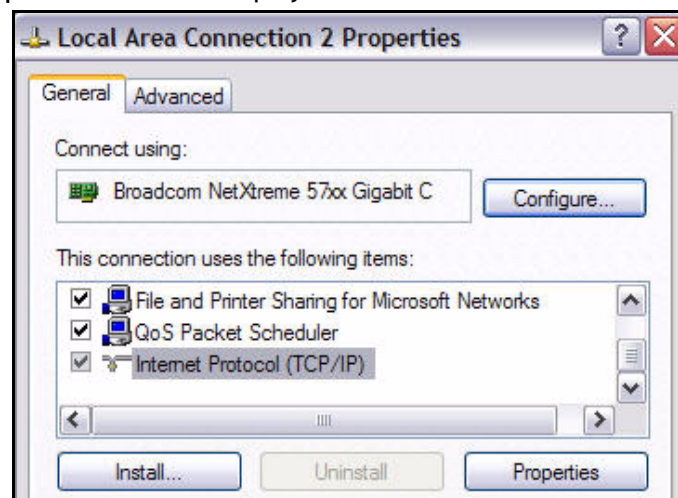

Figure 10. Local Area Connection Properties Dialog Box
4. In the Local Area Connection Properties dialog box, under This connection uses the following items: select Internet Protocol (TCP/IP) as shown in Figure 10.